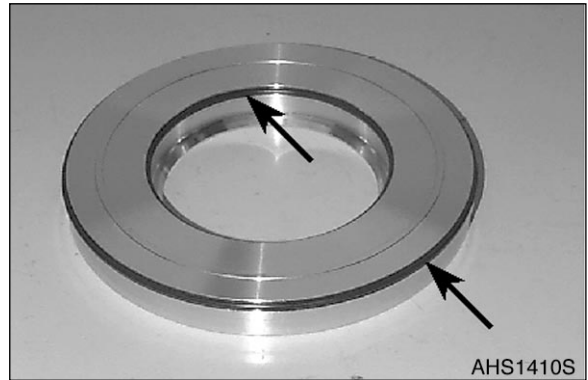

Figure 181
6. Insert both O-rings scrollfree into the ring grooves of the piston, see Figure 181.